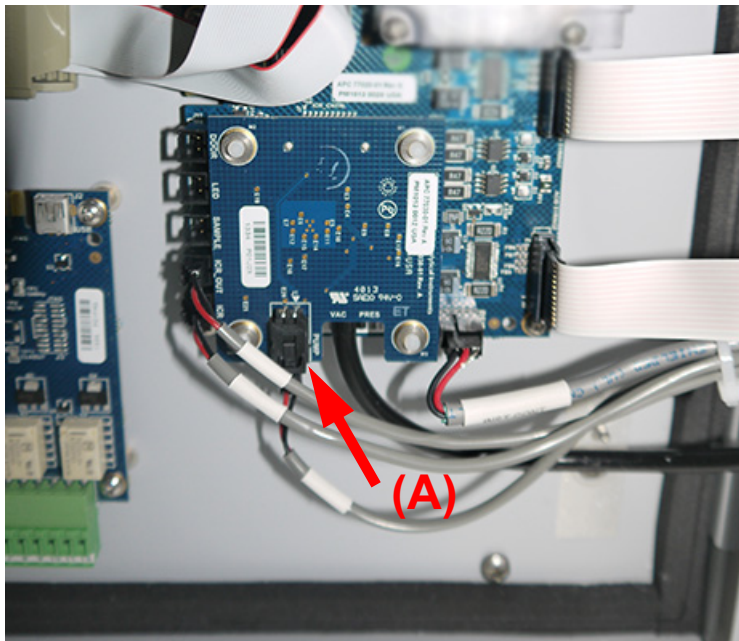
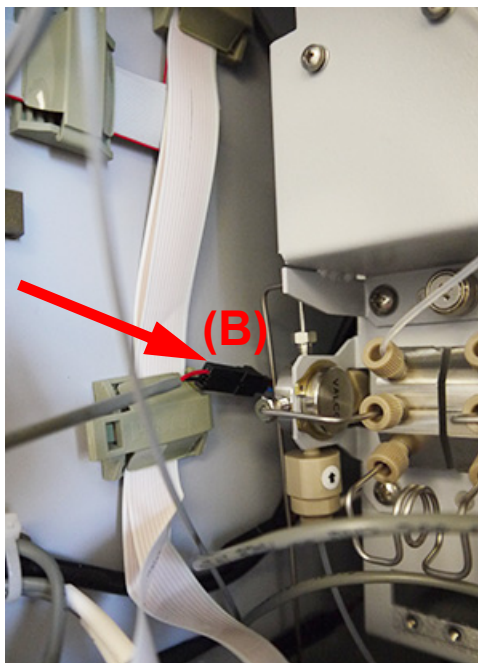

Figure 74: Electronics on Door
Figure 75: Jumper Cable Connection for ICR Pump
3. Remove the panel off the back of the door to locate and identify the ICR pump cable connection (A), \(Figure 74\). After locating the connection, follow the cable back inside the Analyzer and disconnect the cable at the jumper cable (B), \(Figure 75\).